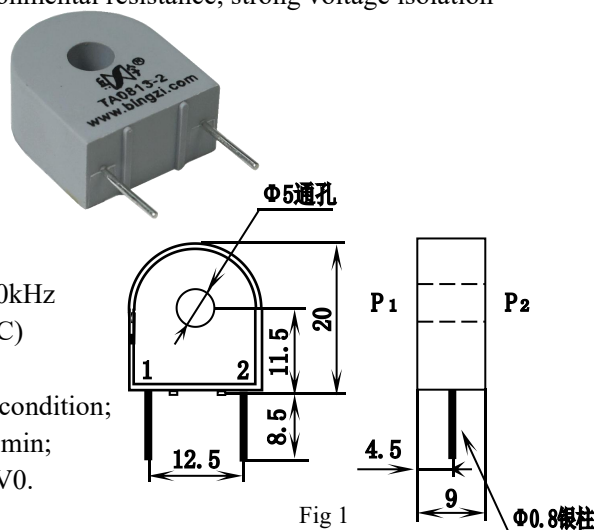

Fig 1
- ① Outline drawing and installation dimensions are shown in Figure 1: